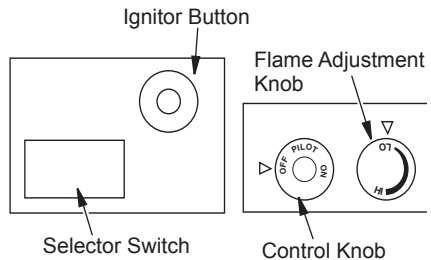

Figure 28 - Control Knob and Ignitor Button Location (Shown as Supplied, No Control Options)
- 5. Wait five (5) minutes to clear out any gas. Then smell for gas, including near the floor. If you smell gas, STOP! Follow "B" in the safety information, page 20. If you don't smell gas, go to the next step.
- 6. Press in and turn control knob counterclockwise ↺ to the PILOT position. Press in control knob for five (5) seconds (see Figure 28).